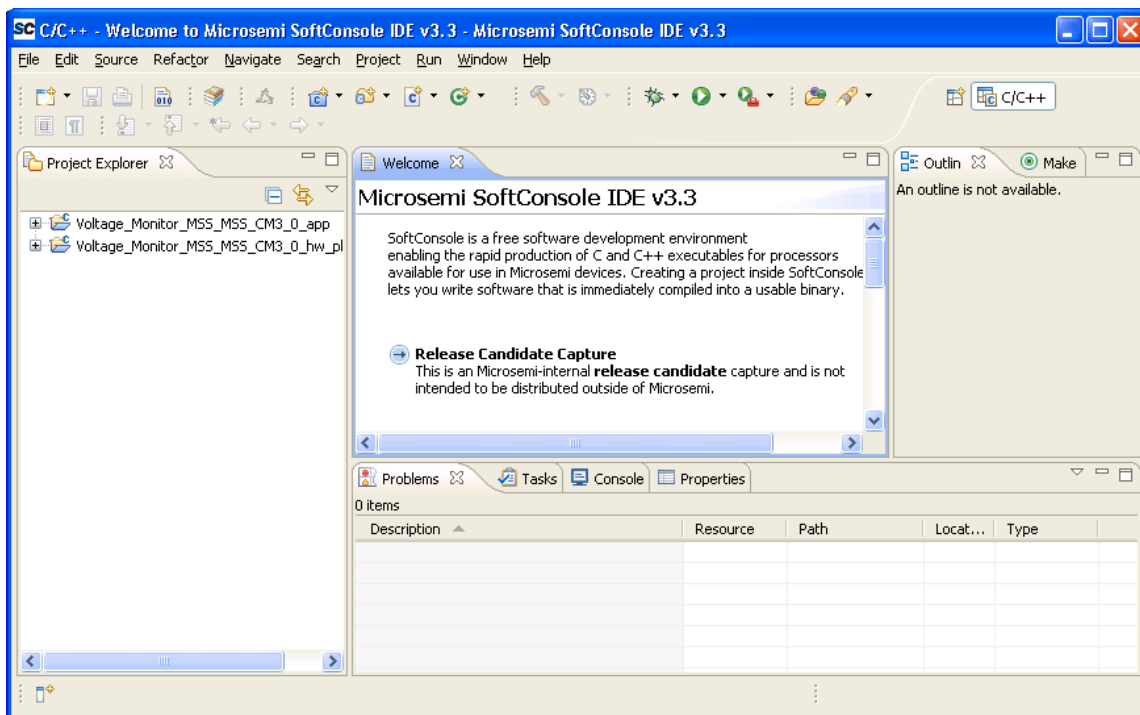

Figure 22 SoftConsole Window
2. The SoftConsole window looks as shown in Figure 22.